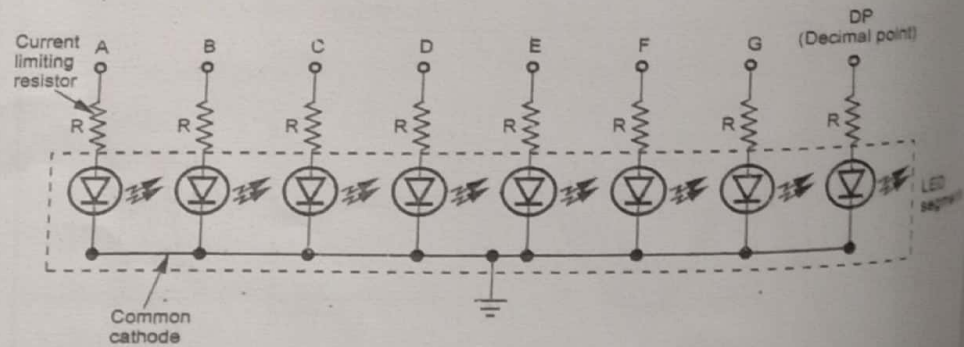

Fig. Q.22.2 Common cathode type
- In this type, all cathodes of LEDs are connected together and common point is connected to the ground. A current limiting resistor is connected between each LED and the supply $+V_{CC}$. The anodes of the respective segments are to be connected to $+V_{CC}$ for the required operation of LEDs. The connection of common cathode type display is shown in the Fig. Q.22.2.